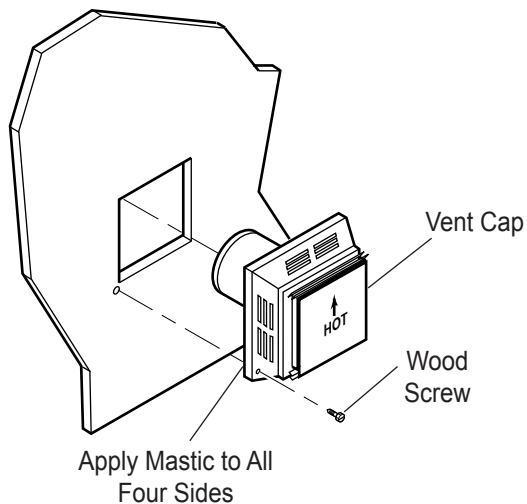

Figure 14 - Installing Horizontal Vent Cap
- Apply a bead of non-hardening mastic around the outside edge of vent cap. Position the vent cap in the center of hole on the exterior wall with the word "UP" on the vent cap facing up. Insure proper clearance of 1" to combustibles is maintained. Attach the vent cap with four wood screws supplied. See Figure 14.